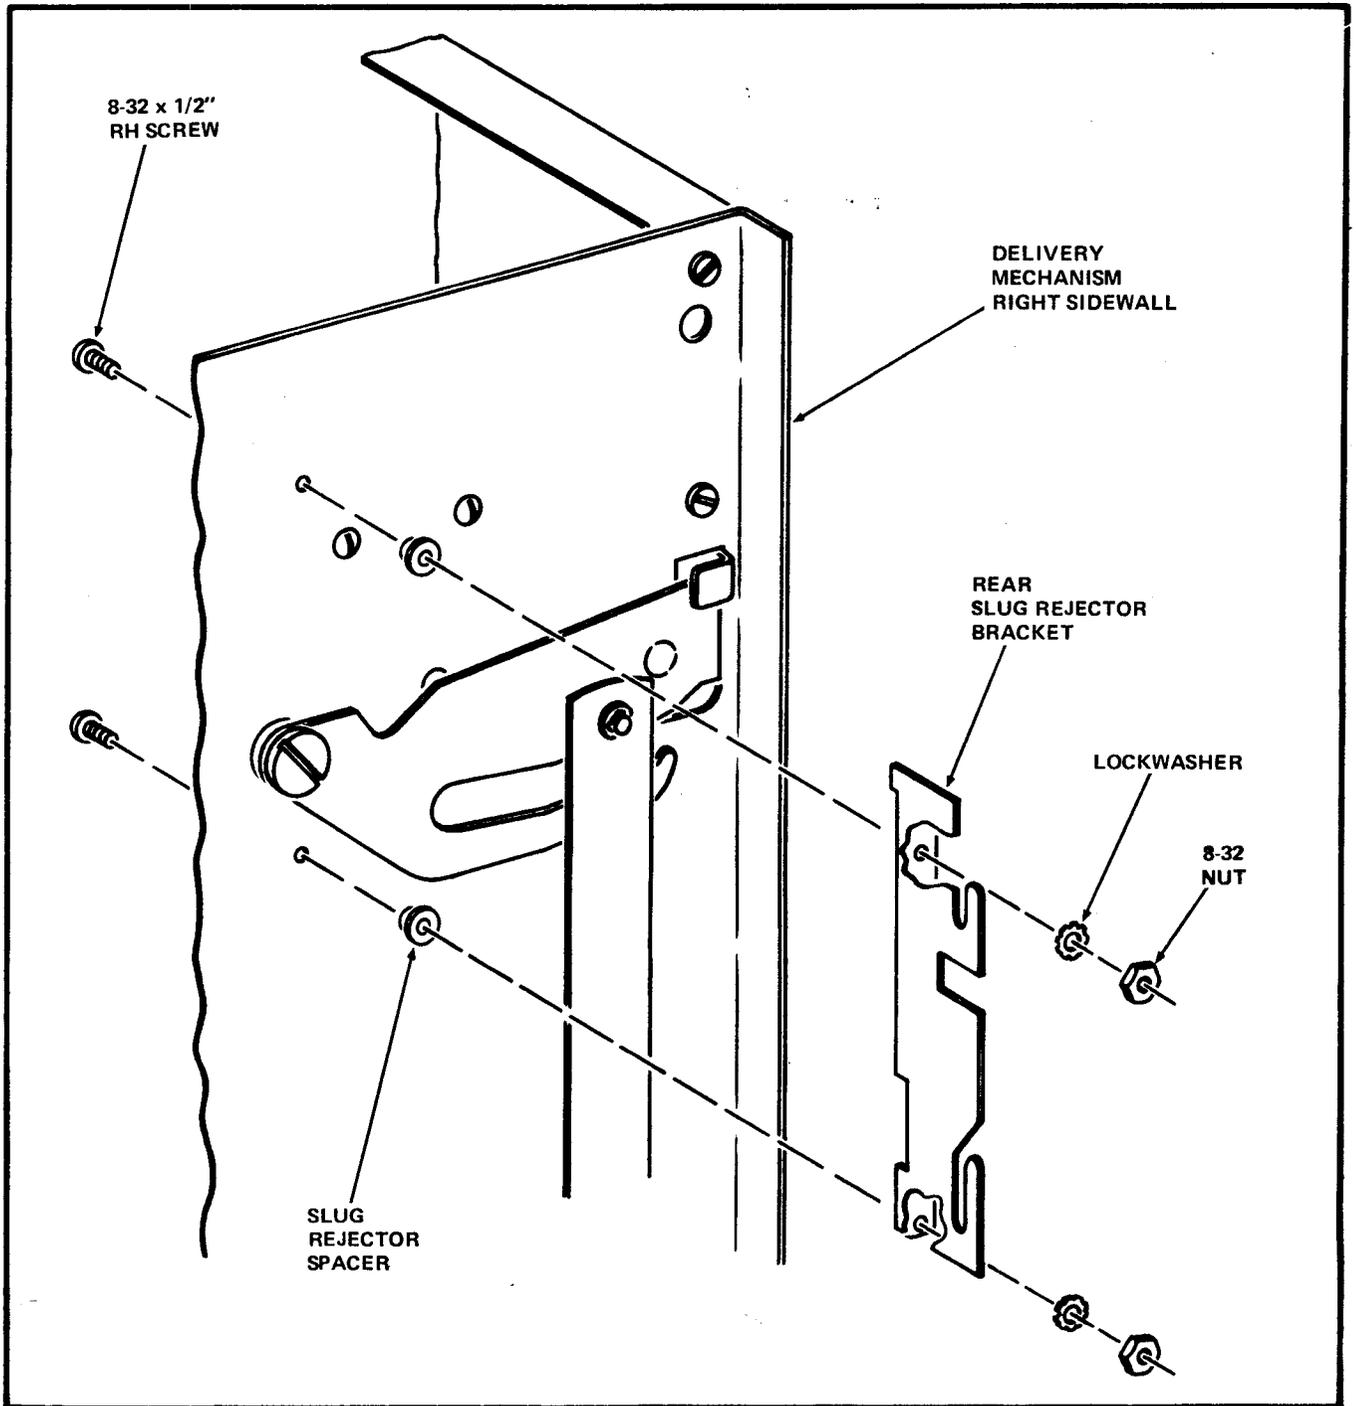

FIGURE 1
6. Remove from the Delivery Mechanism Right Sidewall the 2 No. 8-32 Nuts/lockwasher, the 2 No.8-32 x 1/2" RH Screws and the rear Slug Rejector Bracket and 2 Spacers which the Screws and Nuts attach. See Figure 1.